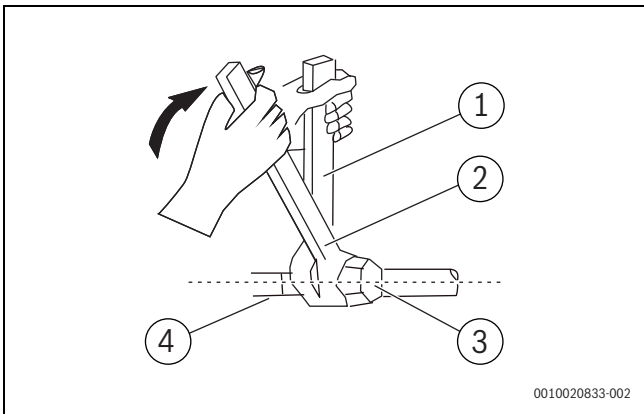

Fig. 2
- Observe minimum clearances (→ Figures 2 to 3).
- Determine the installation location, taking the minimum clearances into consideration (→ Fig. 2).